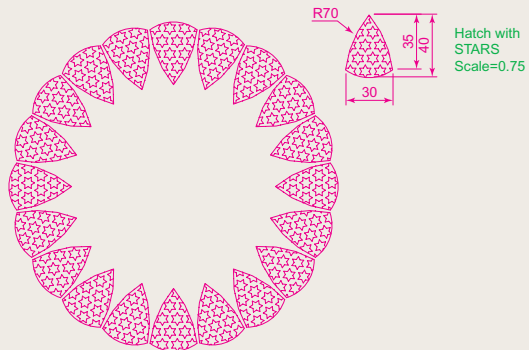

Fig. 8.26 Exercise 7
- Construct Fig. 8.26 as follows: